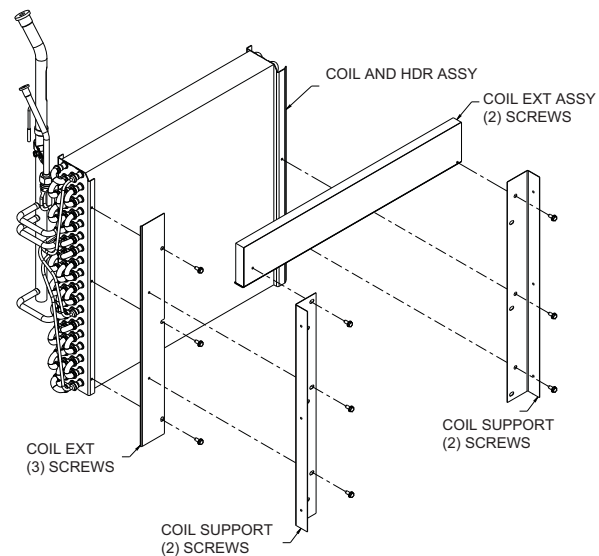

Fig. 6 – New Coil with Extension Assembly
9. Remove coil supports from new coil and install in casing. (See Fig. 6 & 7)
NOTE: Smaller coils will be shipped with coil extension (Fig. 6) and will be used if applicable